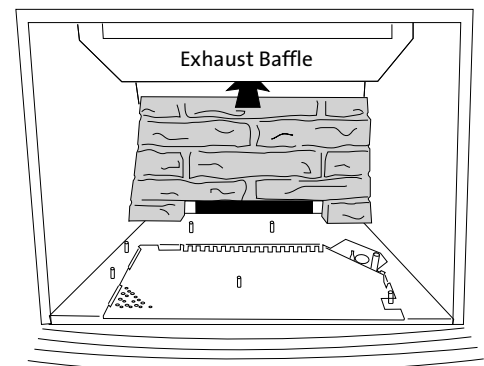

Figure 50. Install the Rear Panel to fit behind baffle.
- 4. Install the Rear Panel.** Tilt the Rear Panel top first to slide behind the exhaust baffle and position it up against the back wall. See Fig. 50.